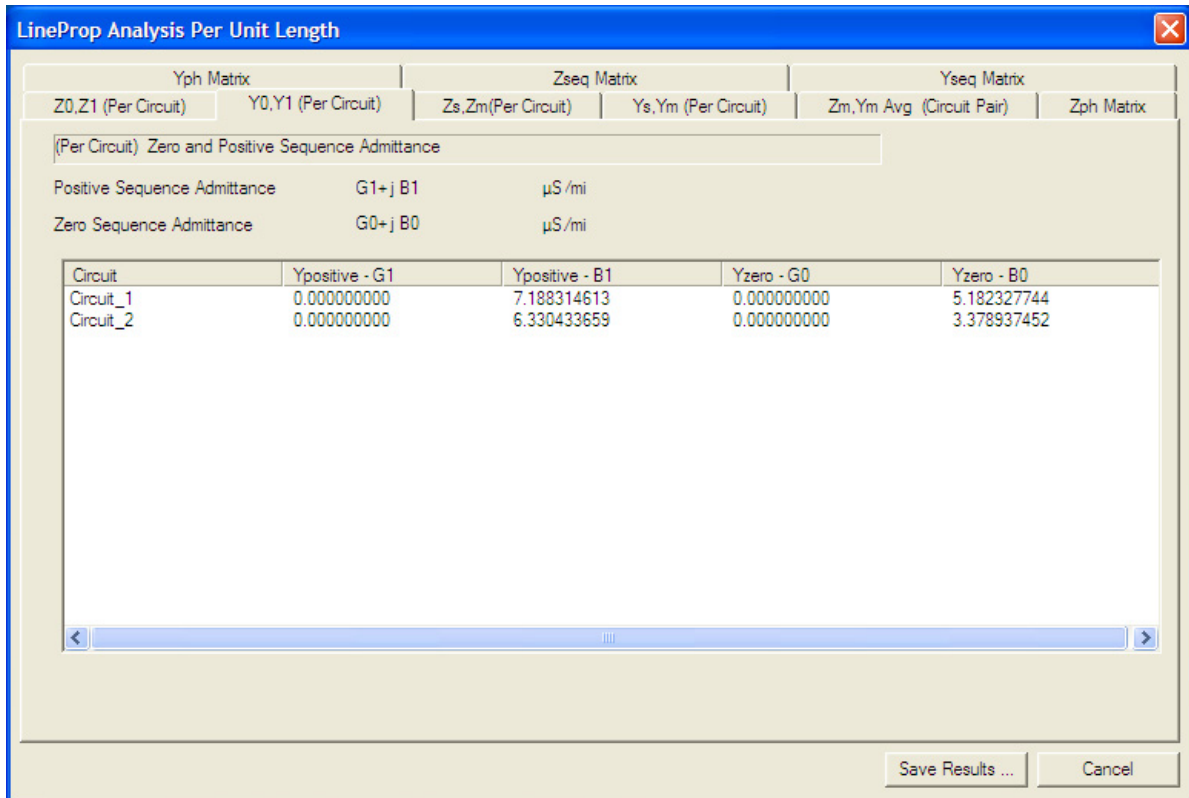

Figure 1-31. Sample Zero and Positive Sequence Admittance Report
- **Zero and Positive Sequence Admittances for Each Circuit** ("Y0,Y1 (Per Circuit)" Tab). As shown in Figure 1-31 each circuit in the corridor is listed, along with the calculated positive and zero sequence admittance values.